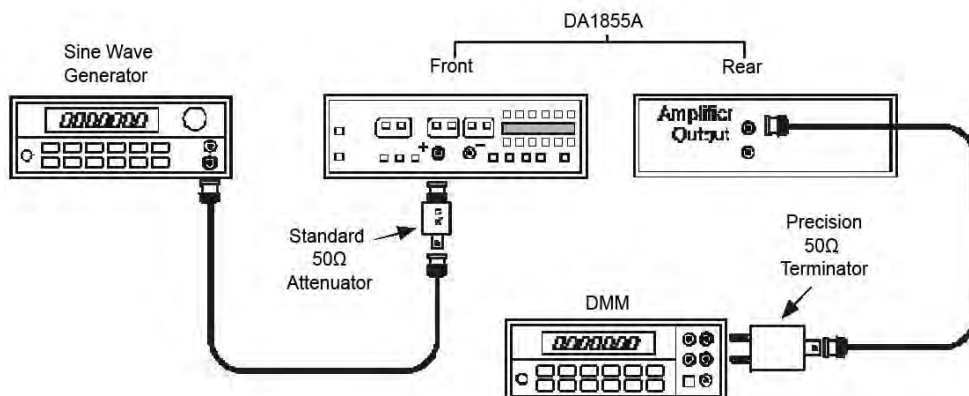

Figure 15, ÷10 Attenuator Accuracy Test Setup 2.
11. Connect the DA1855A AMPLIFIER OUTPUT cable/precision termination to the DMM. Refer to Figure 15.